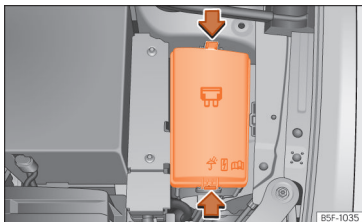

Fig. 104 In the engine compartment: lid of the fuse box.
- Press the locking tabs to release the fuse box cover »» Fig. 104.